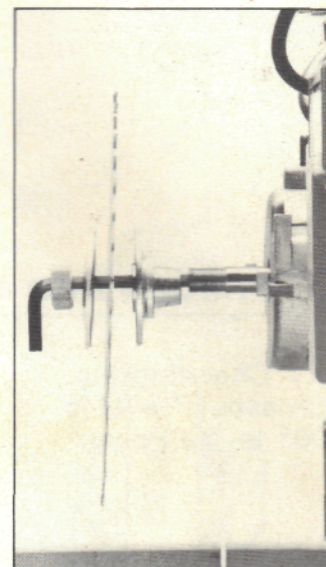

Fig. 6
- (ii) Mount the sawblade (see Fig.6) making sure the lower teeth point towards the back of the machine. Tighten the blade on the shaft using the larger of the allen keys provided to hold the shaft steady while tightening the arbor nut anti-clockwise (left-hand thread) with the large open-ended spanner.